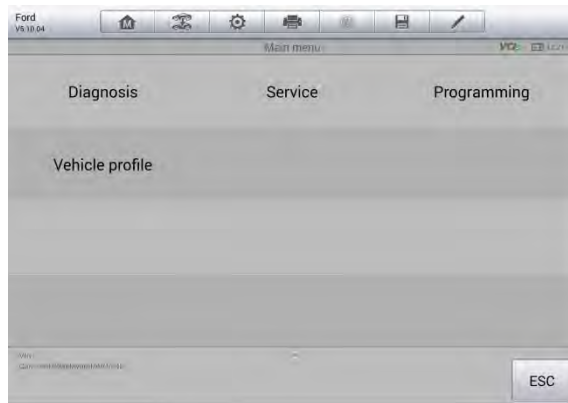

Figure 4-3 Sample Vehicle Diagnostics Screen
5. Tap **Done**. The vehicle will be identified in a few seconds, and once the matching is successful, the system will guide you to the Vehicle Diagnostics screen directly. (Figure 4-3)
The Vehicle Diagnostics screen (*Figure 4-3*) has three main options: